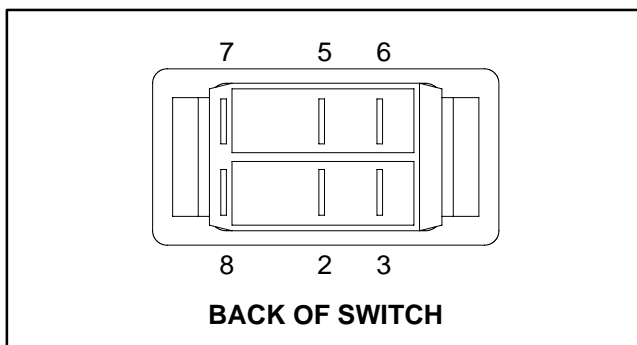

Figure 13
3. The switch terminals are marked as shown in Figure 13. In the ON position, continuity should exist between terminals 2 and 3. In the momentary SET position, continuity should exist between terminals 5 and 6. In the OFF position, there should be no continuity between any switch terminals.